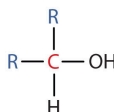

Figure 23.1f. Structure of secondary (2°) alcohol (credit: *Intro Chem: GOB (V. 1.0)*, CC BY-NC-SA 3.0).
- A **secondary (2°) alcohol** is one in which the carbon atom (in red) with the OH group is attached to *two* other carbon atoms (in blue) (Figure 23.1f.). Its general formula is R_2CHOH .